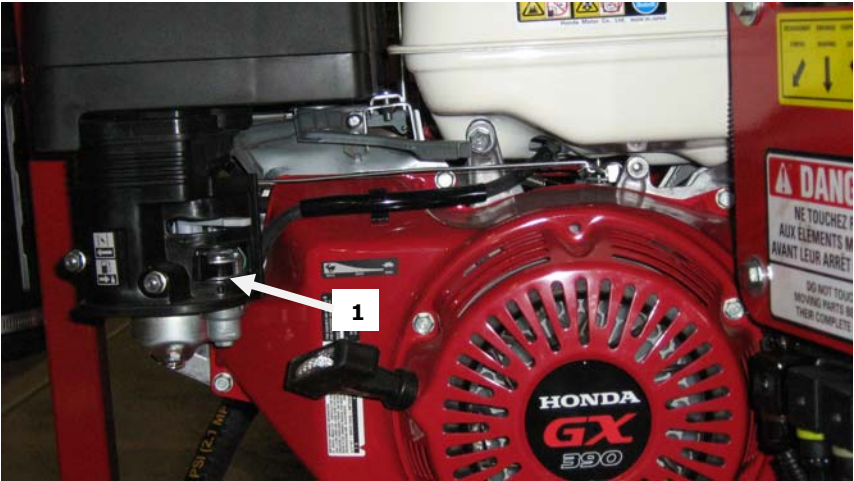

Figure 2.2 Closing the fuel valve.
If you will not use the bale wrapper again for a long period of time, do not forget to close the engine fuel valve (1), located beneath the choke on the right side of the engine (Figure 2.2).